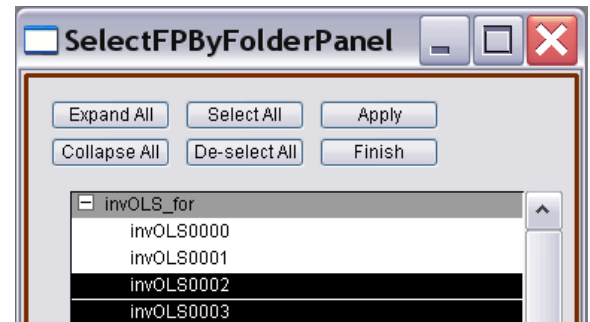

Figure 11.5.2G.2: Selecting Force Curves by folder panel.
✓ Click the 'Do It' button; Igor will process, and produce a histogram (Figure 11.5.2G.3B).
▪ Within the Histogram window, a variety of information can be acquired or exported. Fits can also be acquired from the 'Fit Type' pull down (Figure 11.5.2G.3B).
Figure 11.5.2G.3: Adhesion (MaxForce) batch processing: A) ~100 curves collected with continuous curves (Inset: shows region of interest for MaxForce calculation; B) resulting histogram of Max pull off Force, with Gaussian fit (blue).
• Since many of force experiments depend on statistical occurrences, a statistical average or some other value for the InvOLS may sometimes be necessary. Often there can be a slight variance in the InvOLS value across a series of curves, and for various reasons depending on the system (equilibration time, surface asperities, SLD health, etc.). In Figure 11.5.2G.3A, the variance in the slope of the contact regime (which is InvOLS) is clearly seen. In this example, the author suspects the system was far from thermal equilibrium because data was merely collected as an example for this document.
- ✓ Confirm that only the 'Ext' checkbox is activated, indicating that you only want to look at the extension part of the force curve considered in the calculation (Figure 11.5.2G.1B).
- ✓ Plot the Force curves as LVDT (X) versus Deflection Volts- typically this is done to calibrate the spring constant since the force constant of the cantilever isn't known.
- ✓ In the *Modify* subtab, click the 'Y offset' and 'Raw (X) Offset' buttons to zero the selected curves (see Section 11.5.2E.1). This may take some processing time depending on number of curves.